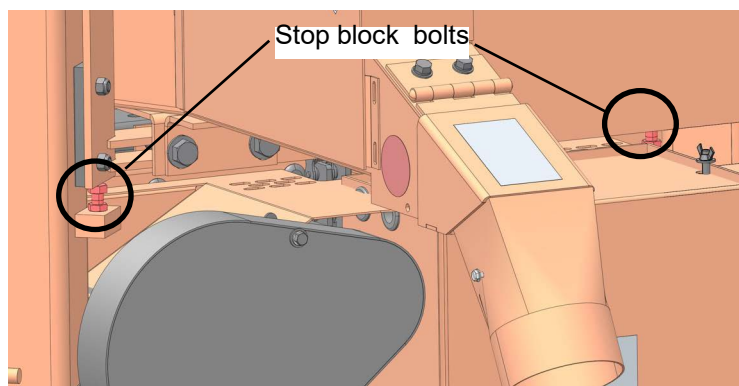

FIG. 4-12
**CAUTION!** It is important that the lower stop bolts are properly adjusted to secure the carriage on the track rail. Failure to properly adjust the stop bolts can cause saw head damage, especially during mill transportation. **See FIG 4-12.**
13. **If necessary**, adjust the stops located at the bottom of the mast so the saw head contacts them after it is lowered 3/4" (19mm) past where it contacts the rest pin. See FIG. 4-12.